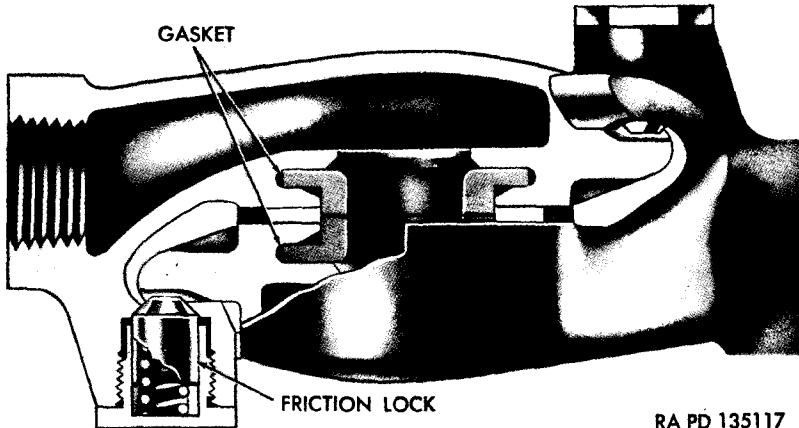

Figure 195. Hose coupling connected—sectional view.
a. *Hose Couplings.* The design of the hose coupling is such that when two of them are coupled together, pressure is put on two rubber gaskets making an airtight seal and at the same time providing a joint which can be easily connected or disconnected by hand (fig. 195). Some types of hose couplings are fitted with friction locks while others do not have this feature. Some also are marked with the word service or emergency. Couplings of this type which are marked emergency have a knob on the back while those marked service do not have a knob. However, all types are interchangeable and any hose coupling of one type can always be connected to any coupling of another type.